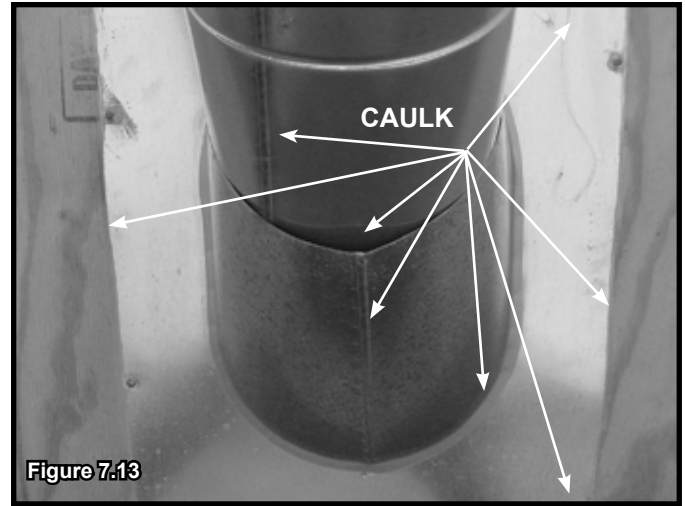

Figure 7.13
- Slide the roof flashing over the pipe sections extending through the roof as shown in Figure 7.13.
- Caulk the perimeter of the flashing where it contacts the roof surface. See Figure 7.13